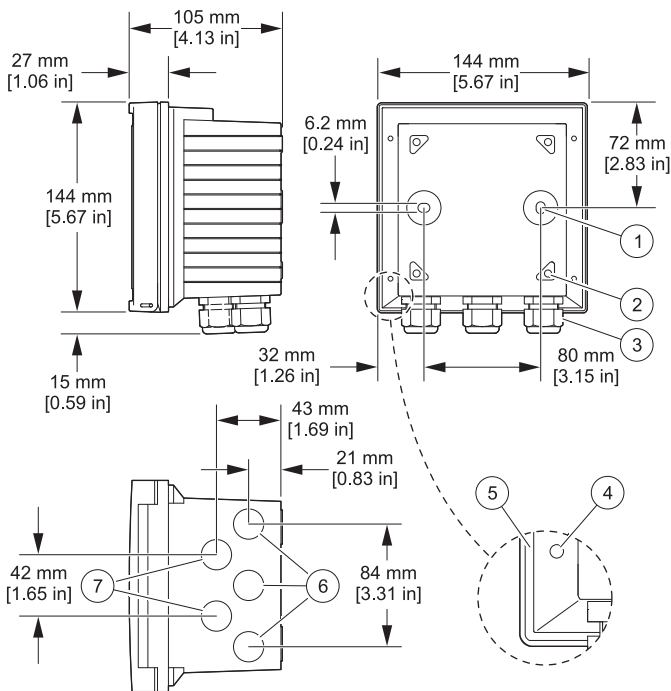

Figure 2 Wall attachment dimensions
1. Insert the strain relief fittings in the holes of the back enclosure and secure with the hex nuts (Figure 2).
1. Use a punch to open the two wall-mount holes in the back enclosure (Figure 2).
Refer to Figure 2 and the instructions supplied with the panel and pipe mounting kits (see Accessories on page 81).